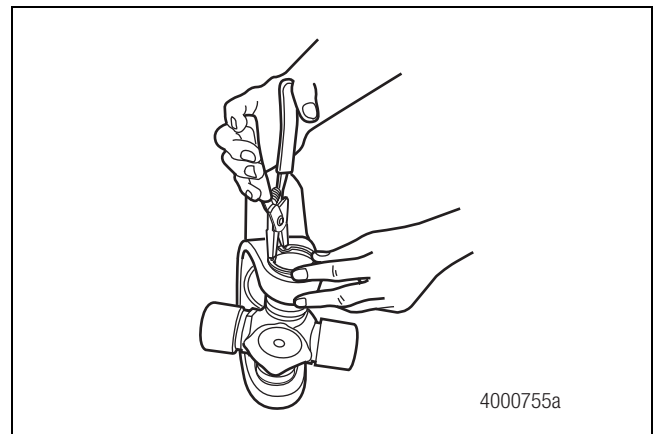

Figure 6.3
3. Use snap ring pliers to install the snap ring into the snap ring groove. You must fully seat the snap ring into the snap ring groove to avoid damage to the drive shaft. Figure 6.3.